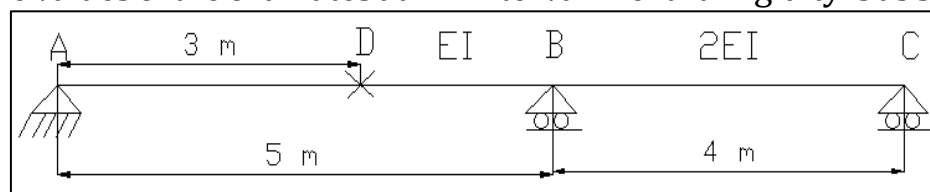

Fig. 9
9. Draw the influence line diagram for shear force at D in the beam shown in Fig. 9 after computing the values of the ordinates at 1m interval. Flexural rigidity is as shown in the figure.